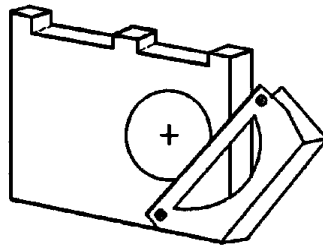

Figure 3
- e) Position the new battery in place with the + side facing the direction as shown in Figure 3.